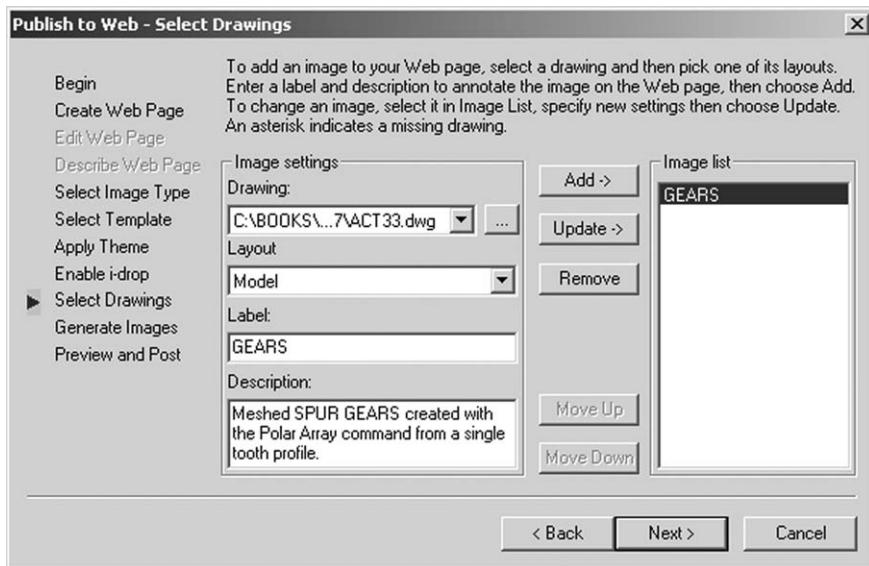

Figure 37.5 The Publish to Web – Select Drawings dialogue with GEARS added to the Image list.
- and now* **GEARs added to Image list** – Figure 37.5